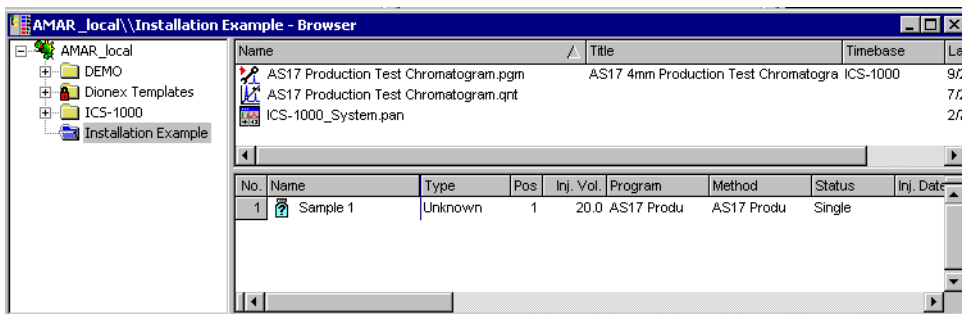

Figure 32. Example Browser with Open Sequence
18. Click **Next>** and then click **Done** on the last page of the Sequence Wizard. The Browser appears, displaying the sequence you created (see Figure 32). Notice the three files in the top pane of the Browser window.